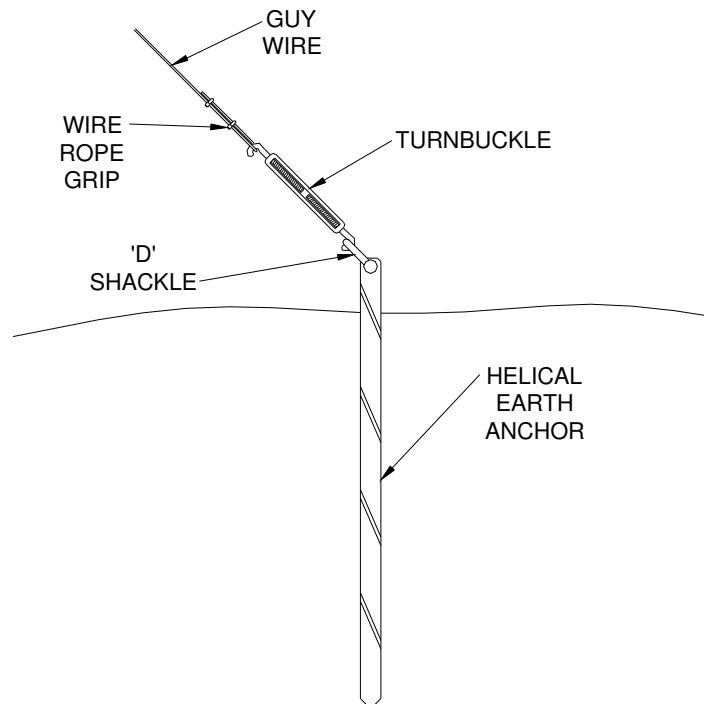

Fig 9: Prepare the guy fittings on the ground end of the guy wires
10. **Attach the Guy Wires to the connection plate** – Slide the connection plate down from the top of the tower until it meets the locking collar. Measure out approximately 6100mm (6.1 meters) of the steel catenary wire for each of the guy wires. Arrange and fit the guy wires to the guy lugs. Follow the fitting arrangement depicted in fig 9. Allow a 300mm overlap and always use two wire rope grips at each looped end of the wire. Repeat this for all of the remaining guys.
11. **Make ready the guy wire fixings for the earth anchors** - Prepare the fittings on the earth anchor side of the guy wires. Follow the arrangement shown in Fig 9. Allow a 300mm overlap and always use two wire rope grips at each looped end of the wire.